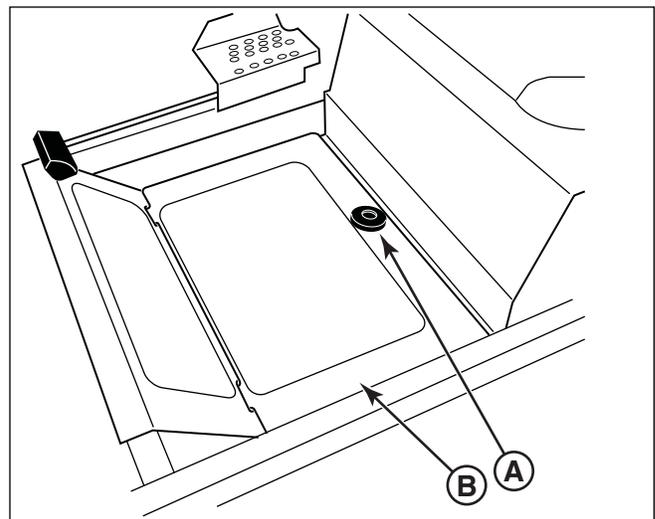

Figure 54. Floor Pan Removal & Installation
1. Loosen and remove the retaining hardware (A, Figure 54) that secures the floor pan to the frame of the unit.